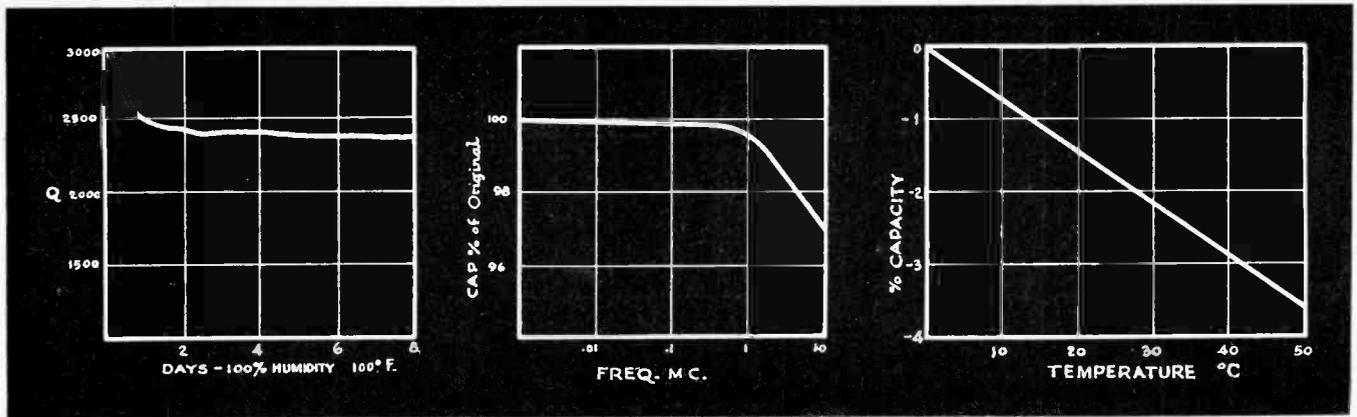

Fig. 10. Characteristic curves of Titanium Dioxide type of fixed capacitor.
**The Titanium Dioxide Type** of fixed condenser is characterized by its negative temperature coefficient. Titanium dioxide ( $\text{TiO}_2$ ) has a dielectric constant of 85 and a temperature coefficient of  $-6.5 \times 10^{-4}$  per degree centigrade temperature rise. This is equivalent to approximately 2 percent capacity change with a temperature rise from 30° to 60° C. Silver is coated on the  $\text{TiO}_2$  surface and fired at a high temperature. Characteristic curves are shown in Fig. 10.